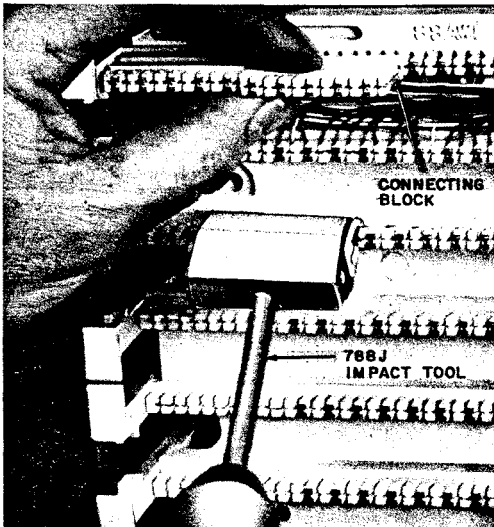
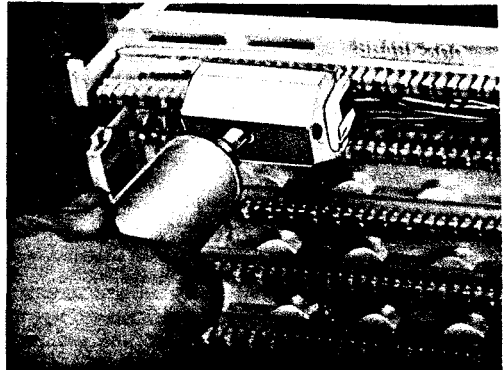

Fig. 15—Aligning Connecting Block in Index Strip
Fig. 16—Connecting Block Seated With Impact Tool
5.03 Properly align connecting block in index strip (Fig. 15). Seat block as shown in Fig. 16.